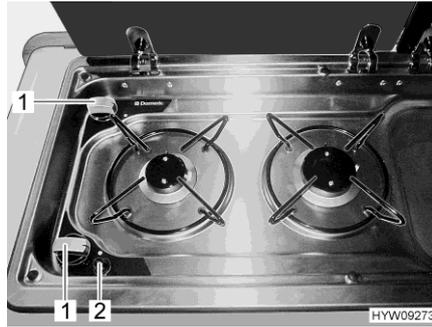

Fig. 113 Gas cooker
- Turn the control knob (Fig. 113,1) on the burner you wish to use to the ignition position (large flame).
- Press the push button (Fig. 113,2). An ignition spark is created at the burner. If necessary, press the push button several times.